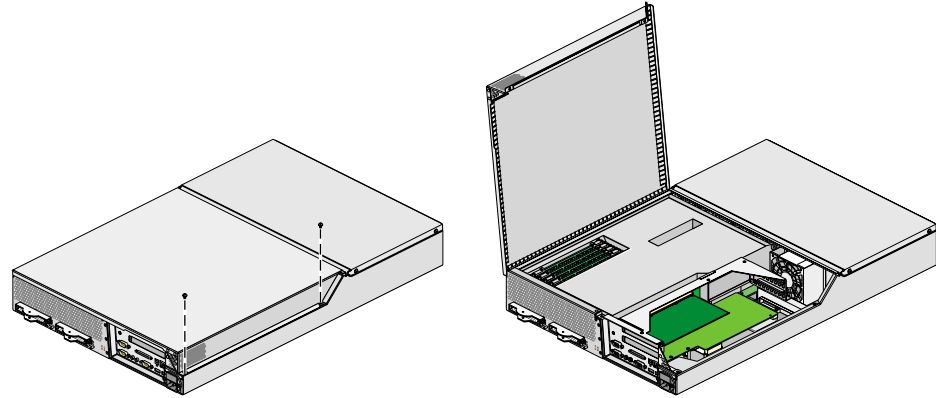

Figure 4-2 Opening Server to Install PCI Card
5. To access the PCI card, remove the two screws shown in Figure 4-2 and lift and remove the hinged cover.